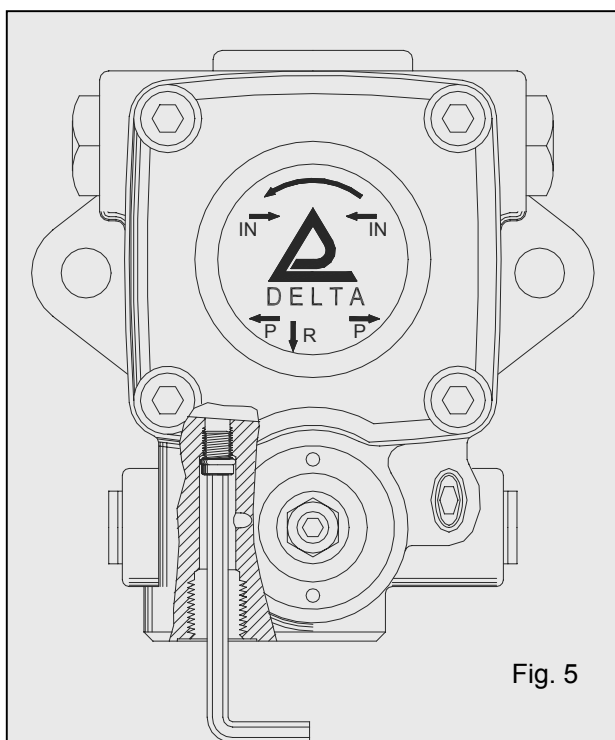

Fig. 5
- 1) Using a 5 mm Allen wrench, unscrew the by-pass plug from the return port (Fig. 5).
- b) Using a 5 mm Allen wrench, screw the by-pass plug inside the return port (Fig. 5).